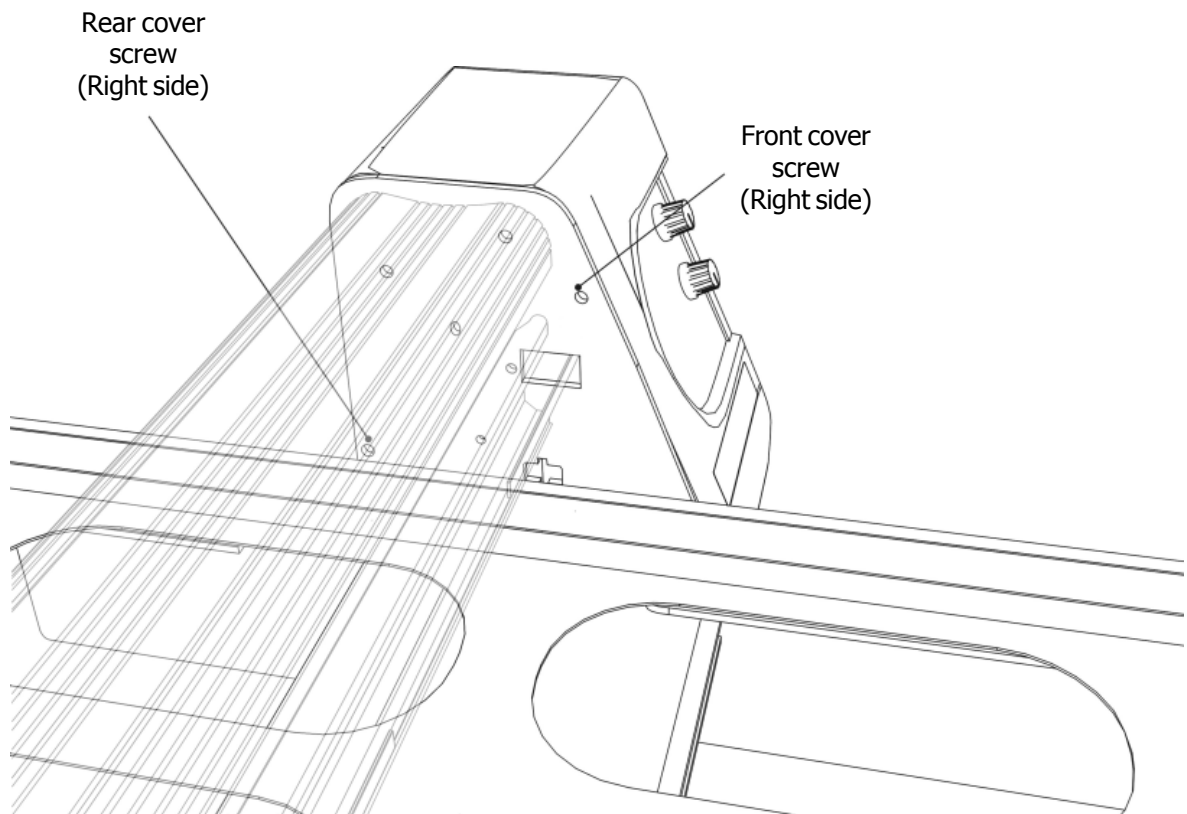

Fig. 5-2 Right side cover screws (Black Phillips head)
2. Remove the two black phillips head screws, and the single silver phillips head screw on the bottom of the cover, then remove the right cover. To access the rear black screw, you may have to move the tray forward. *See figure 5-2 below.*